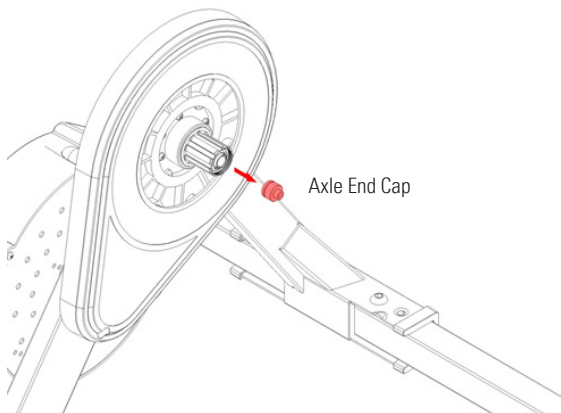

Figure 1
2. With the cassette removed, you will now need to remove the axle end cap on the drive side by rotating it counter clockwise. Figure 1